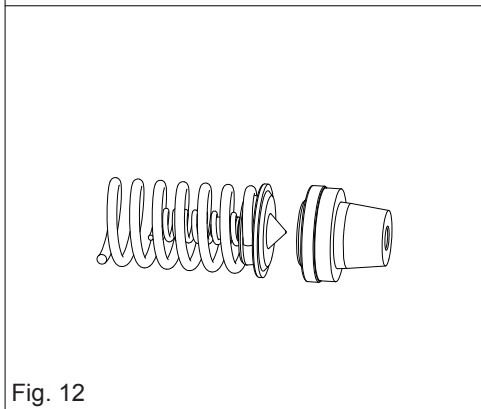

Fig. 12
- Extract the large spring and the small spring/modulation valve set (fig. 12)